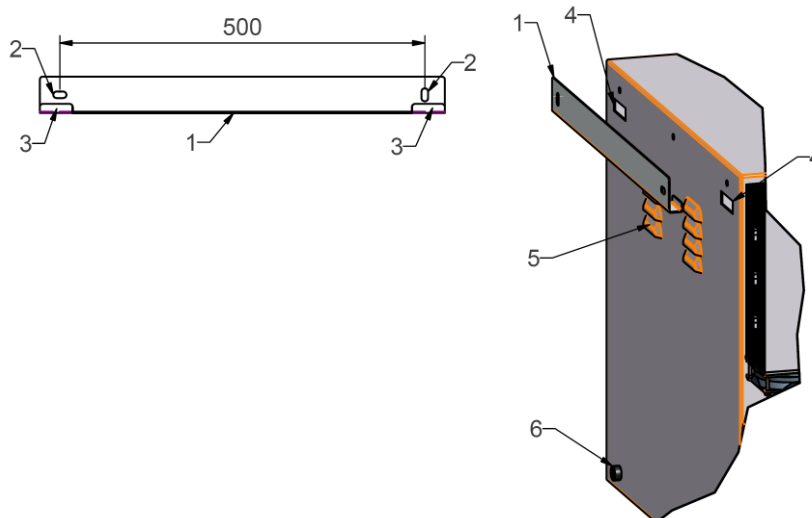

Figure 4: Enclosure fixing device
The DS 2005 meter is prepared for wall mounting. Install the supplied wall brackets (1) (as shown in figure 4) into which the unit is then placed. Distance elements (6) ensure a horizontally balanced level.